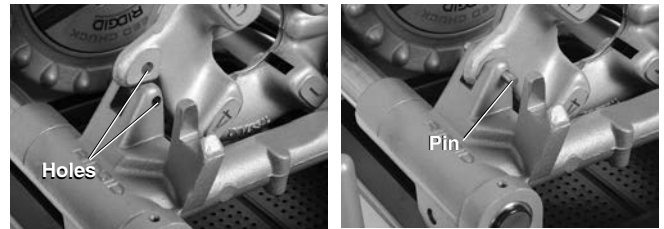

Figure 26 – Retaining LH Die Head in Place
- Place a $\frac{5}{16}$ " pin 2" long through the holes in carriage rest and left hand die head to retain in place (see Figure 26).